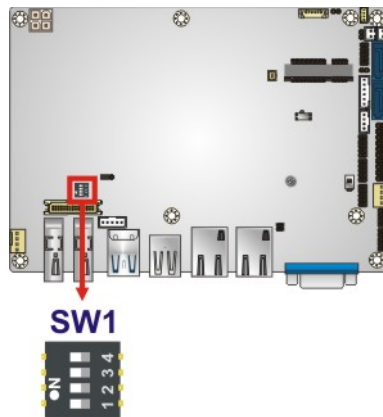

Figure 4-14: LVDS Resolution Selection Jumper Location
- Jumper Location: See Figure 4-14